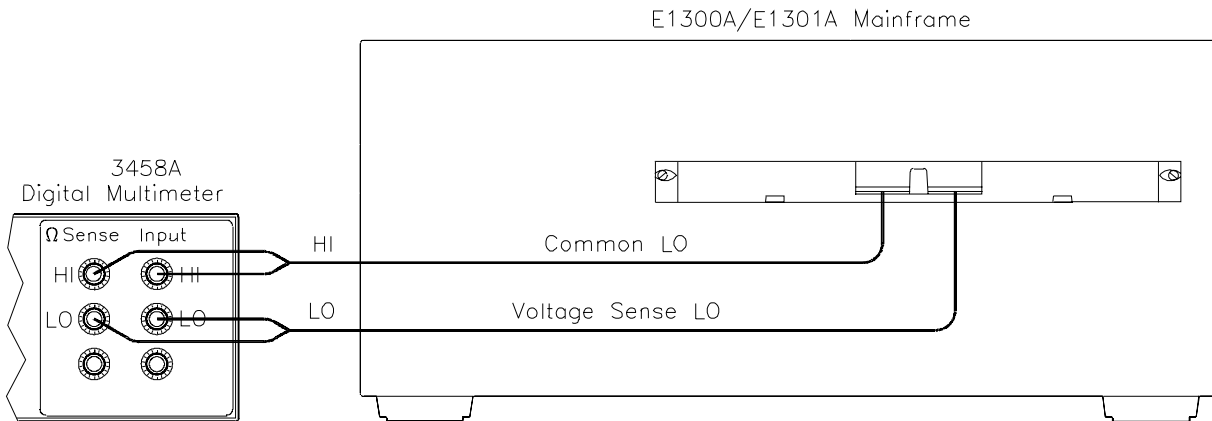

Figure 2-4. Ch 90 LO Measurement Connections
- Connect DMM leads as shown in Figure 2-4